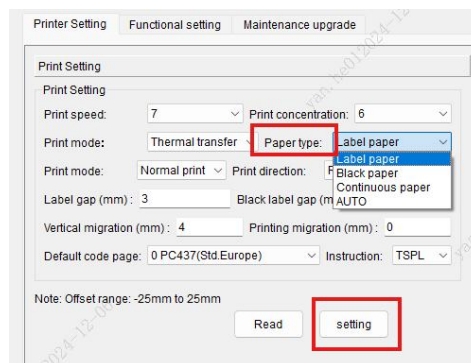

Fig.9
- ④ **Paper Type:** Includes label paper, black paper, continuous paper, AUTO (automatic mode), please select according to the actual situation (shown in Fig.9).